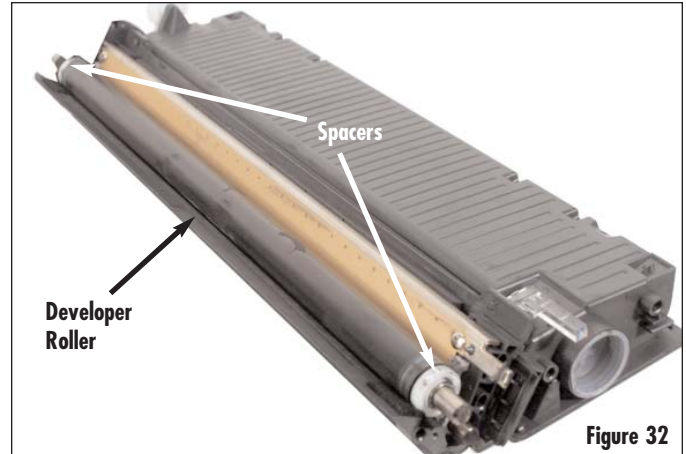

Figure 32
7. Remove the developer roller along with the spacers on each end of cartridge (Figure 32).